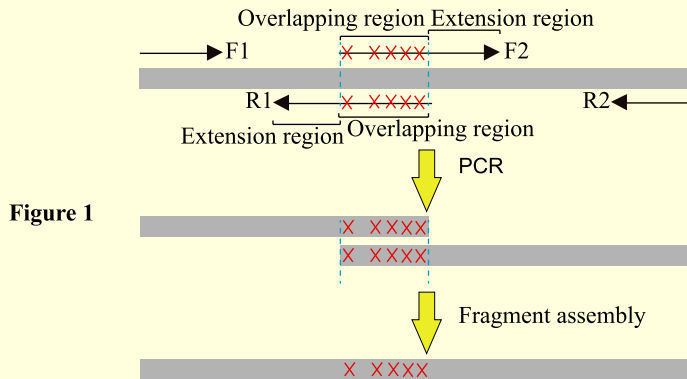

Figure 1
(1) Primer Design
- Both primers contain overlapping region at the 5' ends and extension region at the 3' ends, with mutation site on overlapping region, as shown in figure 1.